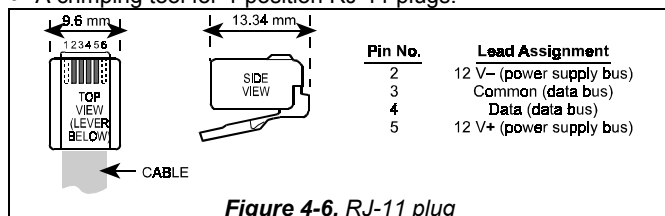

Figure 4-6. RJ-11 plug
If you prefer the quick attach/detach feature of telephone-type connectors, you can wire the SpiderAlert bus to the receiver using the on-board TELCO socket. The 4-pin mating plug required is designated RJ-11 and commonly called "TELCO plug" (see Figure 4-6). Prepare the following items:
- An appropriate length of a 4-lead color-coded modular cable, for producing a patch cord between the bus port of the SR-500(ER) and the bus junction box (see Figure 4-6).